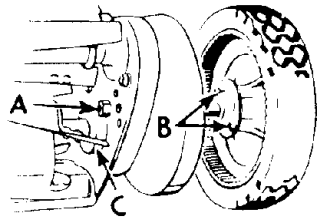

Fig. 11
1. Detach wheel and axle assembly by removing axle nut (fig. 11-"A").
2. Disassemble axle from wheel by removing two screws (fig. 11-"B") and axle retainer.